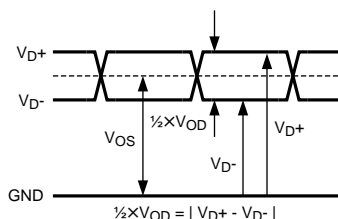

Figure 4-1. LVDS Output Signal Levels
**LVDS OUTPUT OFFSET VOLTAGE ( $V_{OS}$ )** is the midpoint between the D+ and D- pins output voltage with respect to ground; i.e.,  $[(V_{D+}) + (V_{D-})]/2$ . See Figure 4-1.